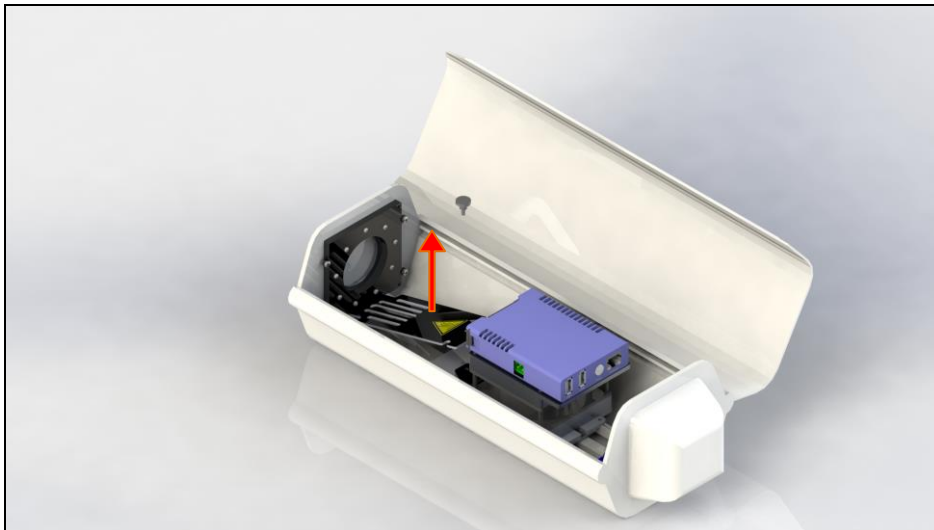

Figure 10: Remove the mounting plate
Step 2: Carefully remove the mounting plate (**Figure 10**).